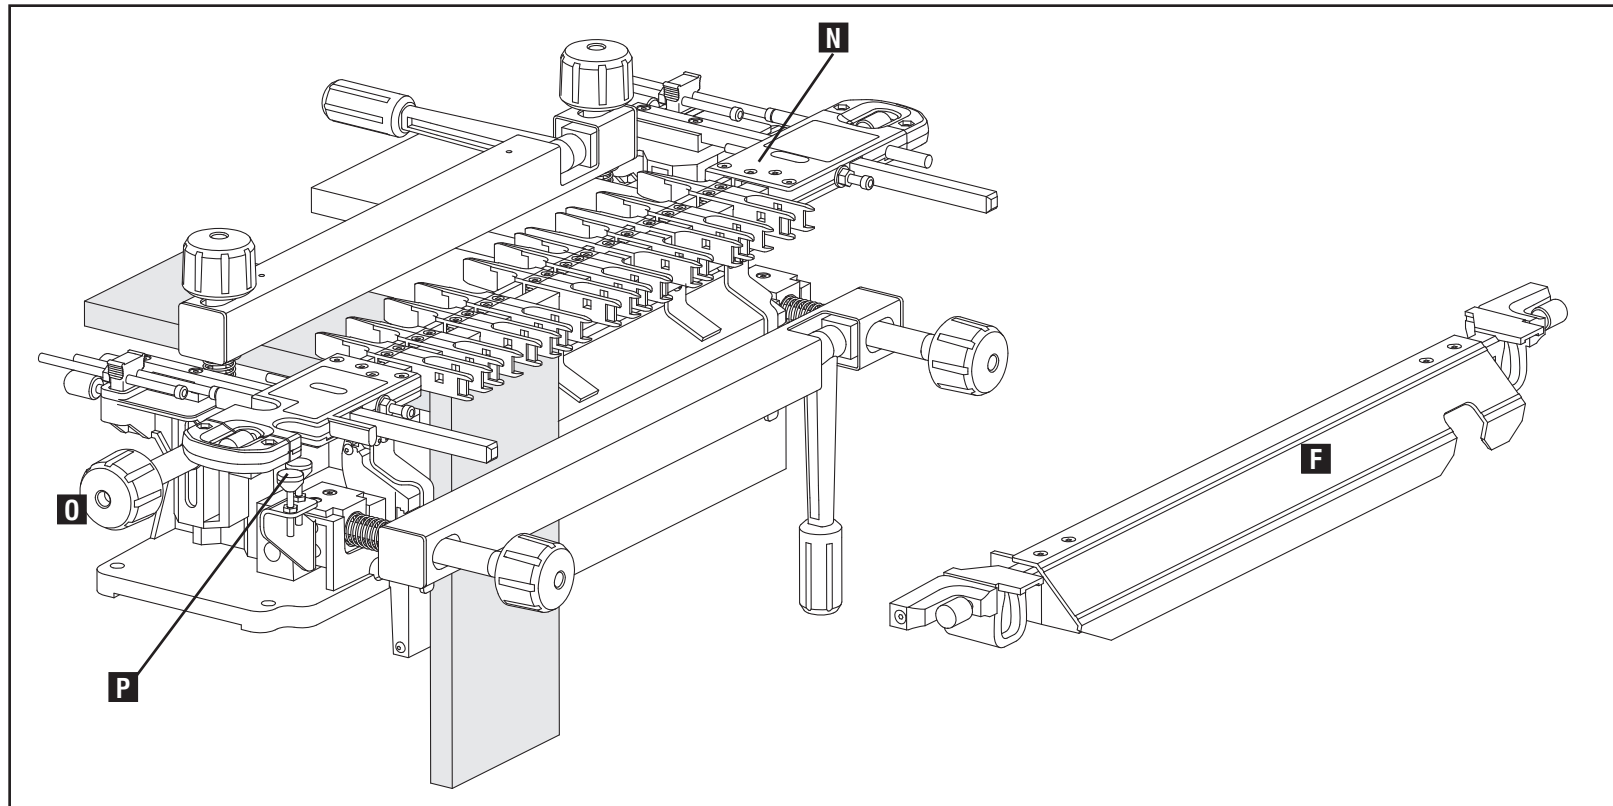

Fig. D8
9. Make sure template (N) Fig. D8 is flat on the horizontal boards and tighten template lock knobs, one of which is shown at (O).
10. Replace stabilizer bar (F) Fig. D8.
12. Set router bit depth at the gauge (P) Fig. D8 located at the left side of the template.